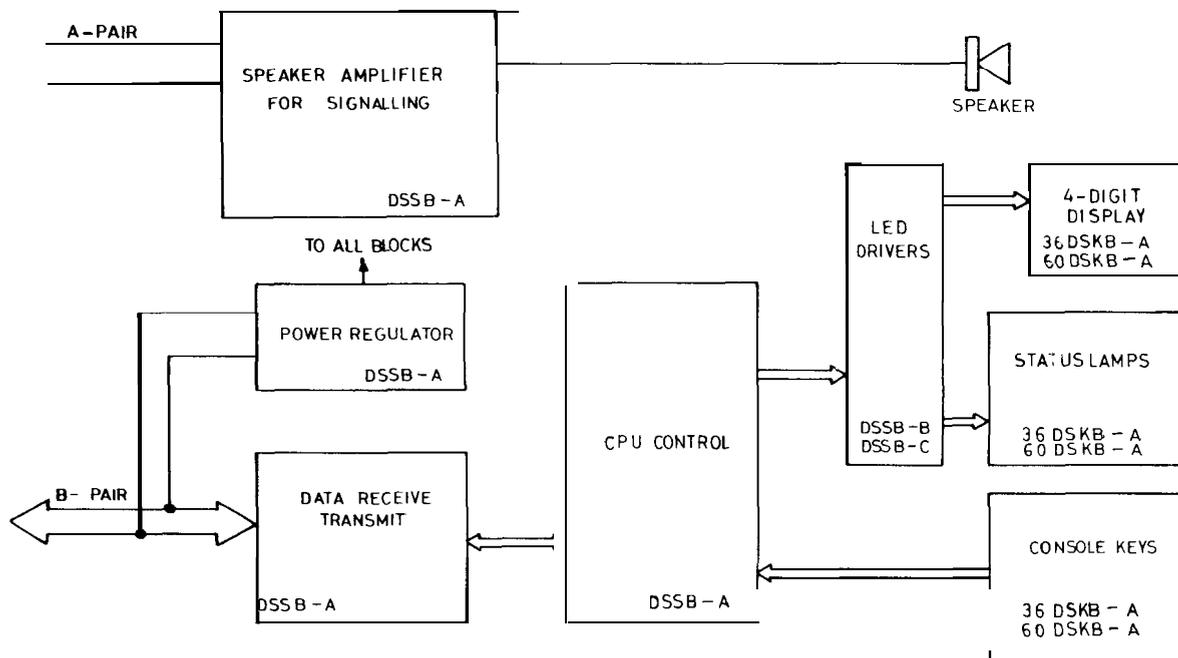

FIGURE 12 DSS CONSOLE BLOCK DIAGRAM
1.4.3.4 DSS Console Block Diagram (Figure 12)